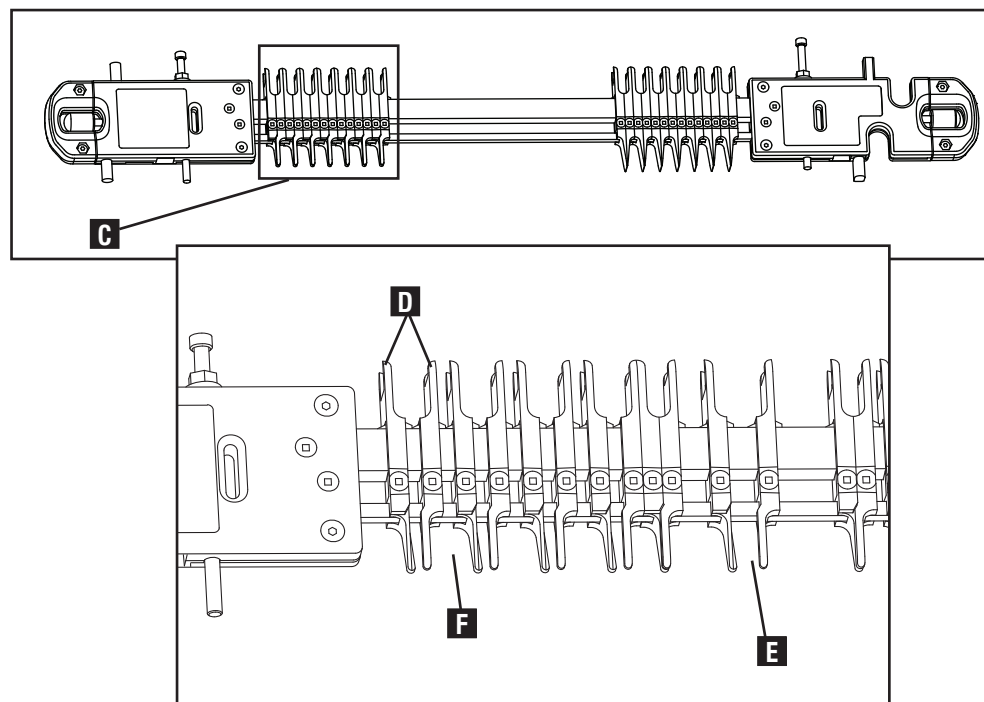

Fig. E3
For the miniature variable fingers, the fingers shown at (C) Fig. E3 are the proper fingers for doing variable-spaced half-blind joints.
If a finger set (D) Fig. E3 is separated, do not cut between straight edges (E) when making cut. Only cut between the angled edges (F).